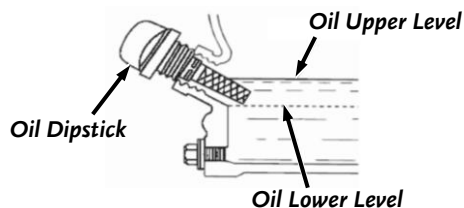

Figure 14
- Insert the Dipstick, but do not screw in, to ensure an accurate reading and then remove it to check the oil level (**Figure 14**).